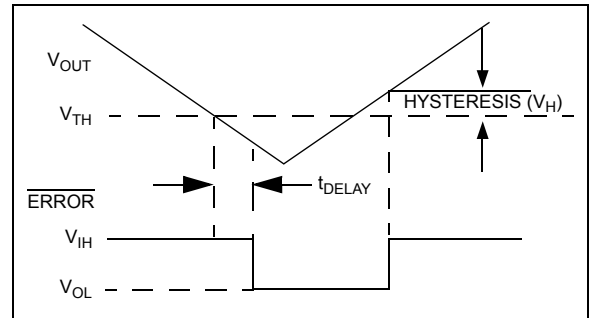

FIGURE 4-2: $\overline{\text{ERROR}}$ Error Output Operation.
$\overline{\text{ERROR}}$ is driven low whenever V_{OUT} falls out of regulation by more than -5% (typical). This condition may be caused by low input voltage, output current limiting or thermal limiting. The $\overline{\text{ERROR}}$ threshold is 5% below rated V_{OUT} , regardless of the programmed output voltage value (e.g. $\overline{\text{ERROR}} = V_{OL}$ at 4.75V (typ.) for a 5.0V regulator and 2.85V (typ.) for a 3.0V regulator). $\overline{\text{ERROR}}$ output operation is shown in Figure 4-2.
- Changes to Figure 4-2.